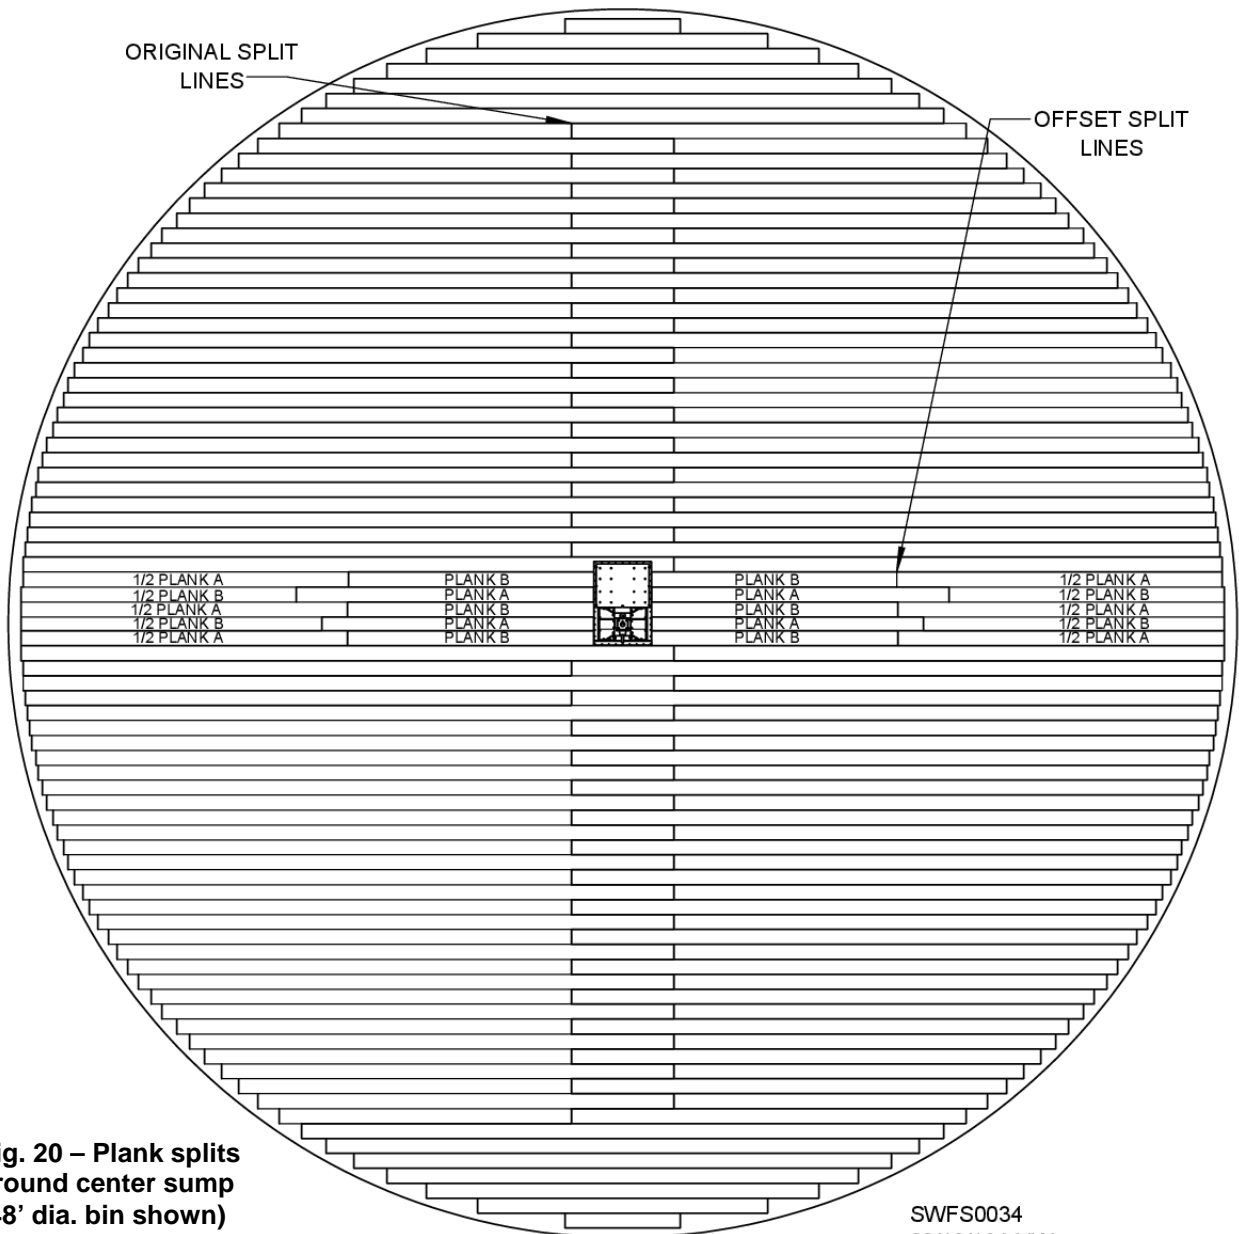

Fig. 20 – Plank splits around center sump (48' dia. bin shown)
1. Cut "A" plank in half. Use halves as outermost segments of split plank. See Fig. 20.